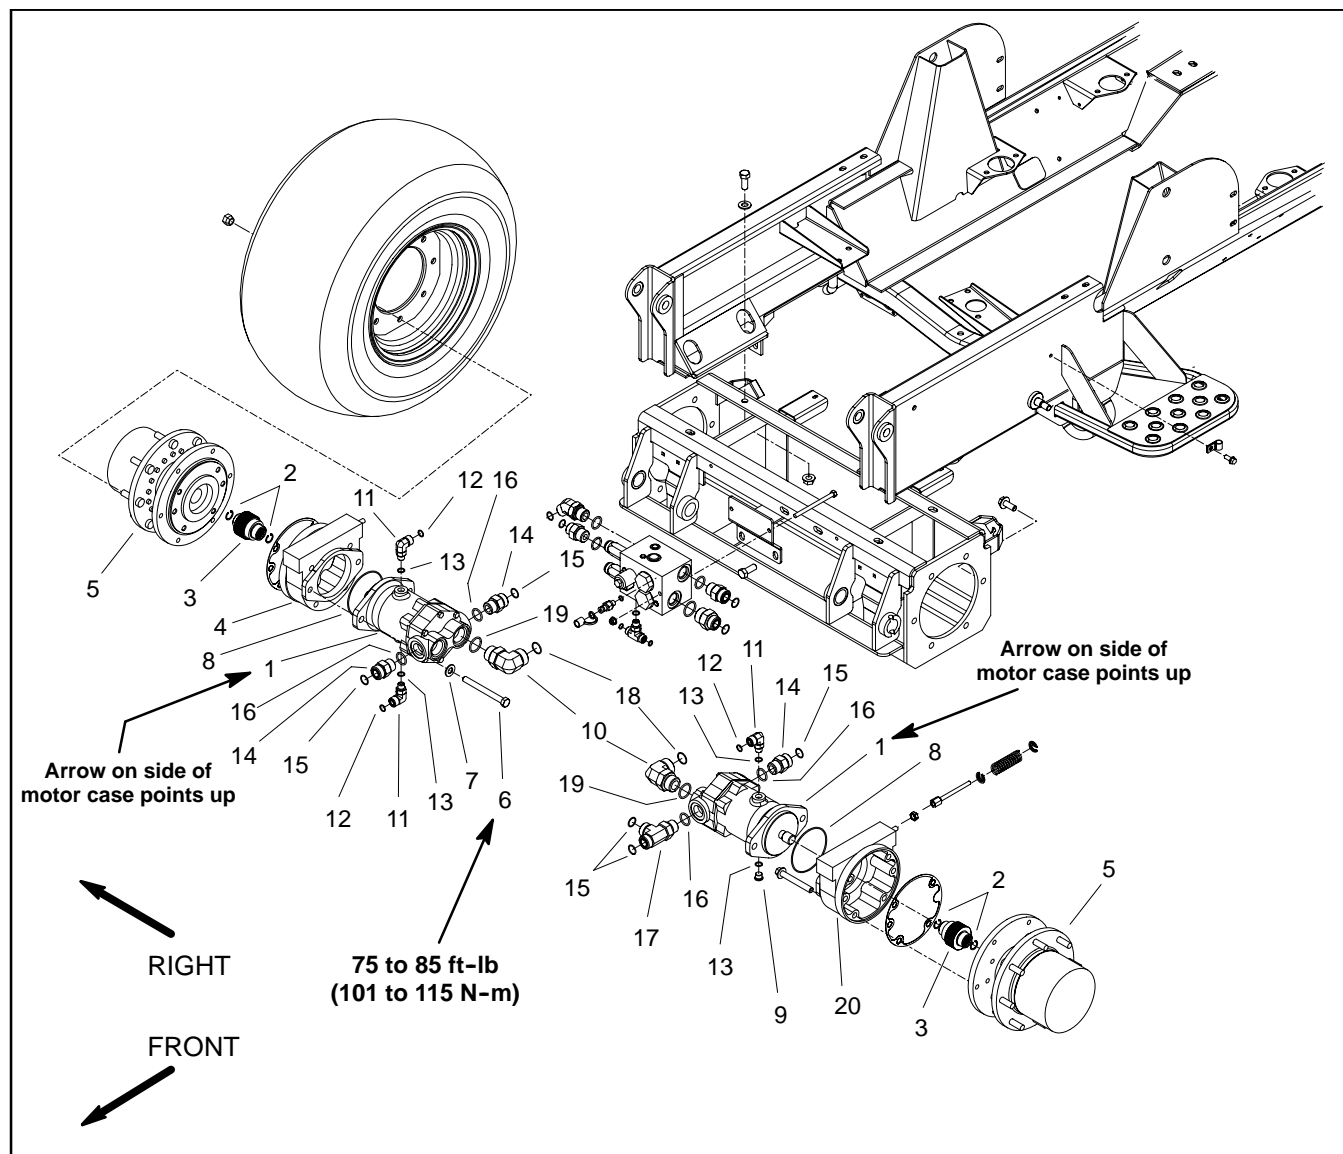

Figure 66
Removal (Fig. 66)
4. Remove wheel motor using Figure 66 as a guide.
Installation (Fig. 66)